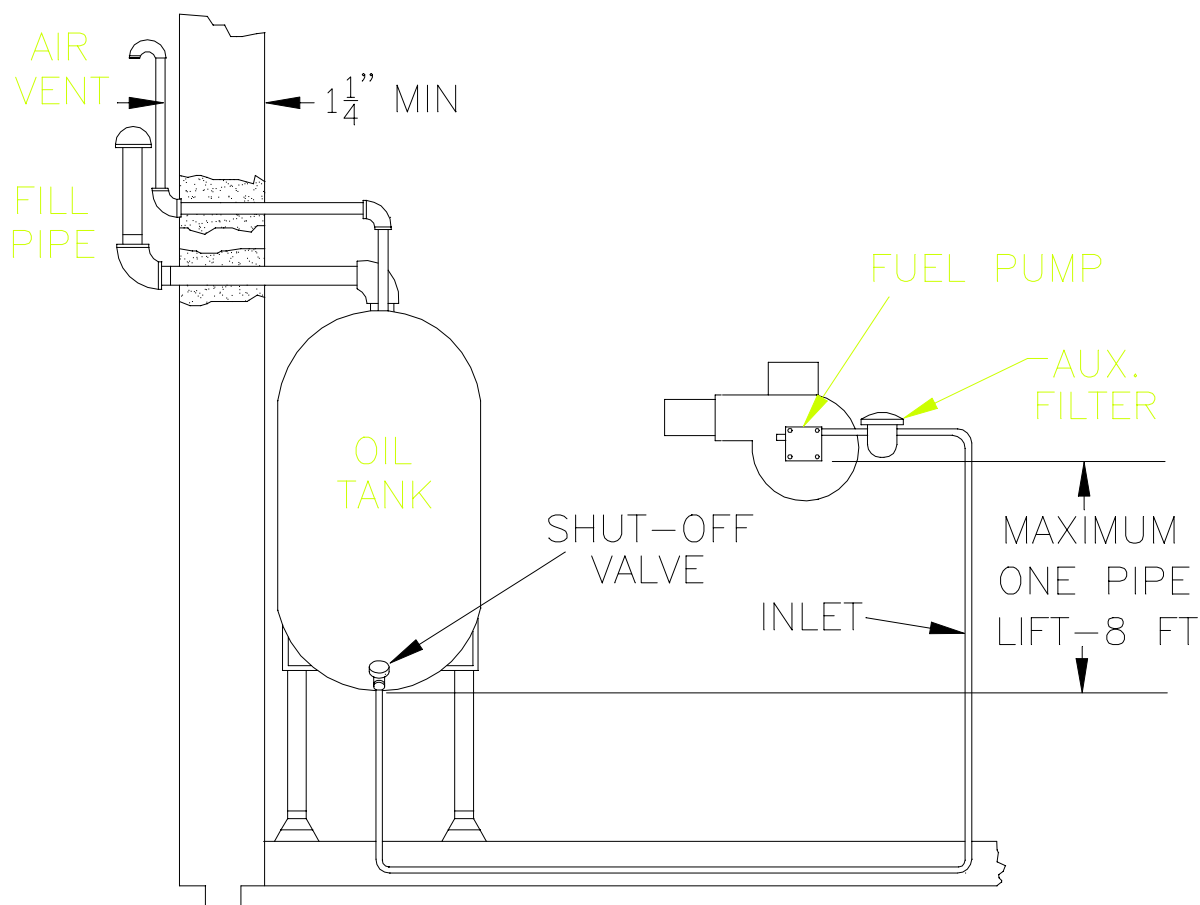

Figure 12: Single-Pipe Installation
2. The single-stage fuel unit may be installed single-pipe with gravity feed or lift. Maximum allowable lift is 8 feet. See Figure 12.